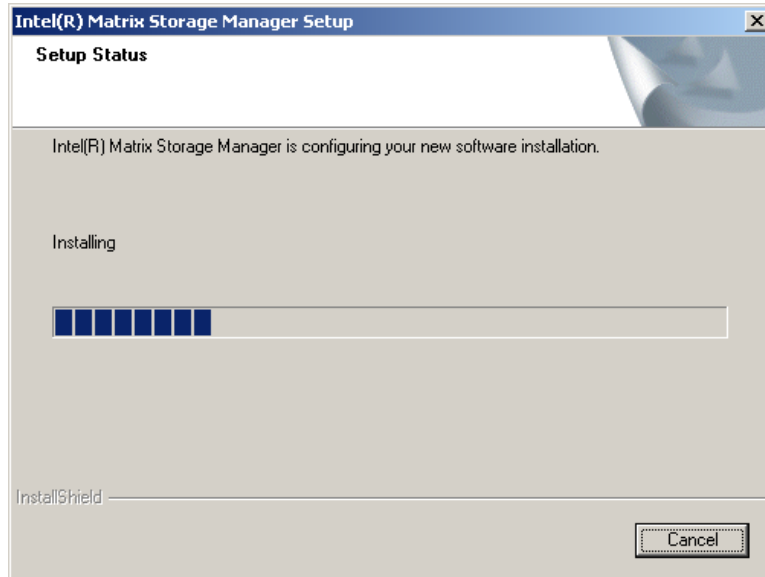

Figure 7-27: Matrix Storage Manager Setup Screen
Step 6: Figure 7-27 shows the Matrix Storage Manager software configuring the installation process.